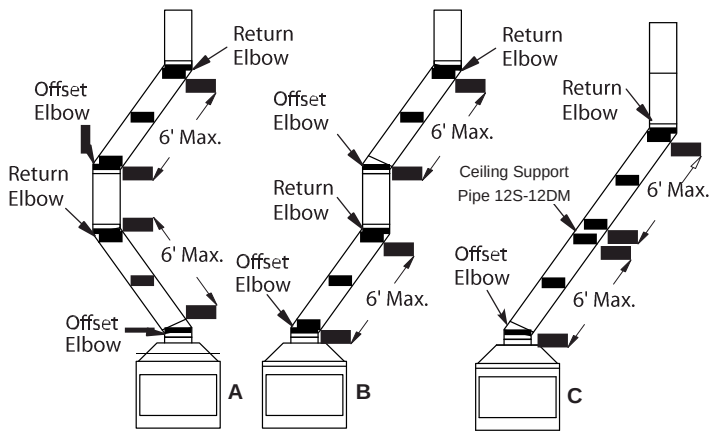

**Figure 17 - Typical Offset Terminations**
3. Maximum length of pipe between supports (return elbow or 12S-12DM) is 6' of angle run. Maximum of two 6' angle run sections per chimney system (see Figure 17, page 16).